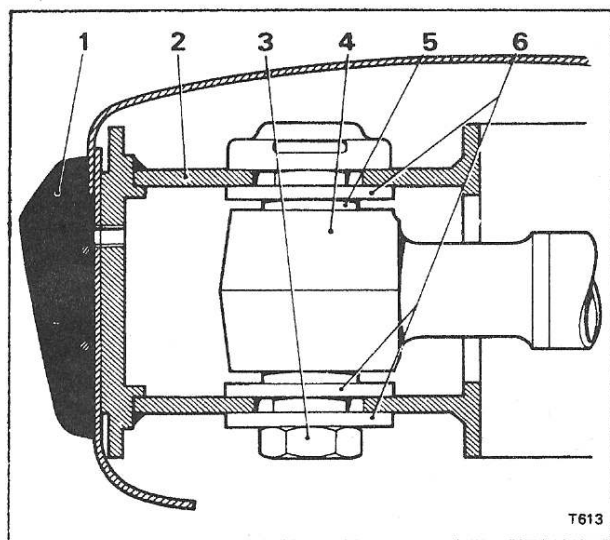

Fig. S84 Bumper to adapter/absorber unit mounting arrangement
2. Fit the bumper assembly by securing the adapters to the mounting brackets. On the front end of the adapters ensure that the spacing washers are in position (see Fig. S84), then check that the two large bolts securing the front end of the adapters to the bumper are torque tightened to the figures specified in Chapter P.
7. Remove the adapters from the bumper assembly by releasing the large bolt securing each adapter to the bumper (see Fig. S84).
2. When fitting the adapters, ensure that the washers are in their correct position, before torque tightening the large securing bolts to the figure specified in Chapter P (see Fig. S84).